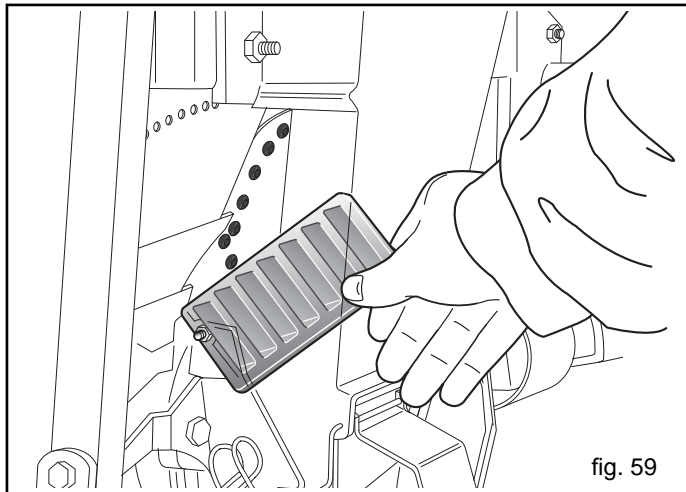

fig. 59
- Adjust the selector and control through the grate that the plate is only holding one seed per hole (Fig. 59);